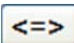

Fig. 1.2.14: Select Table Inventory
4. The **Find Unmatched Query Wizard** appears. Select the table *Inventory* and click **Next**, as shown in Fig. 1.2.14.